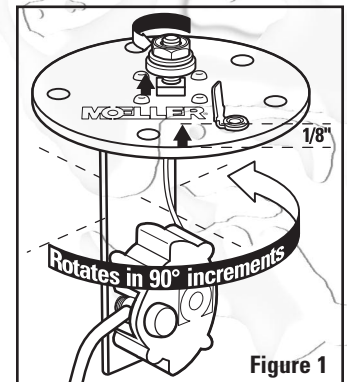

Figure 1
- **Rotate the sending unit** by loosening the brass nut on top of the five-hole flange approximately 1/8" (3.25 mm) (see Figure 1). Do not remove.